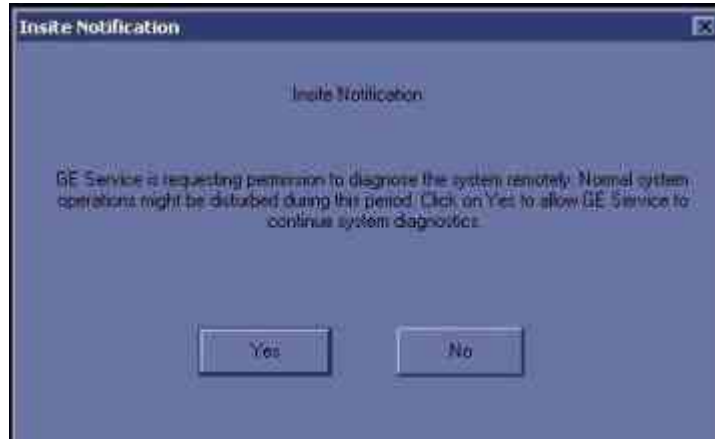

Figure 7-30 Accept requirement of Service
- 4.) Customer will receive a request of Service side, click Yes to accept. See Figure 7-30 on page 7-26